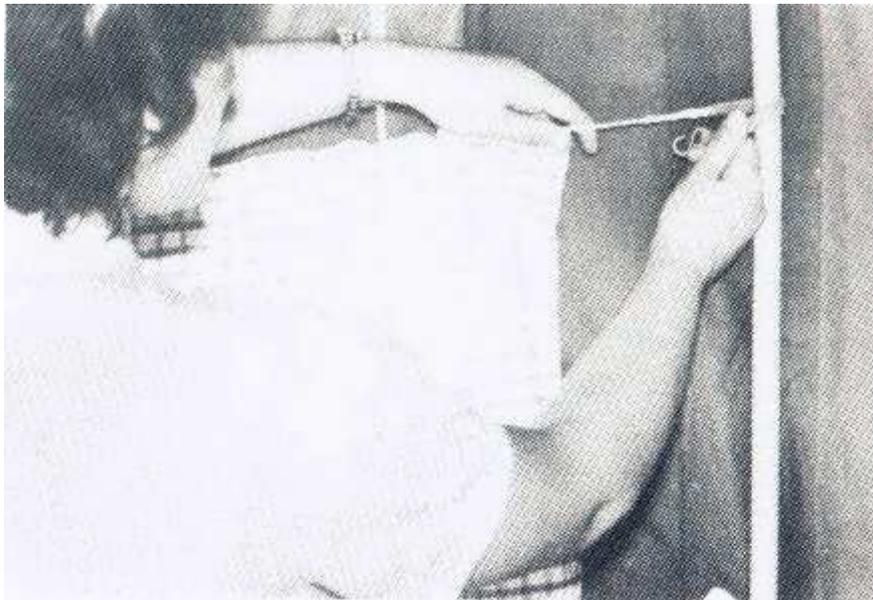

Fig. 19
4.7.1. The **main tent curtain** is put **Schnuren**, rubber bands and wire hooks as well as a gag on. The rubber bands are wound on both sides of the window around the tent poles and hanged. The gag is put through the middle **tent eye** that is incorporated at the upper window edge and gives thus the curtain a good **passport ability**. (Fig. 19)